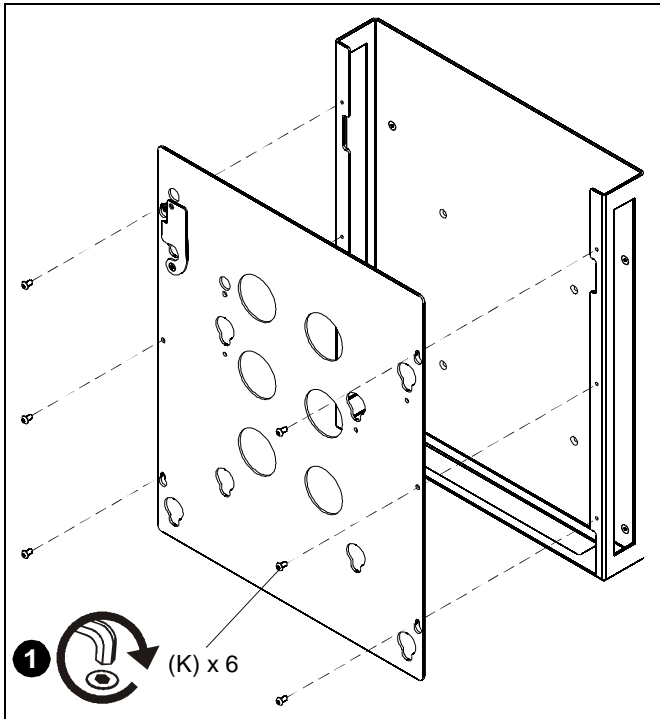

Figure 4
1. Attach faceplate (B) to CPU box (A) using six 10-24 x 3/8" button head cap screws (K). (See Figure 4)